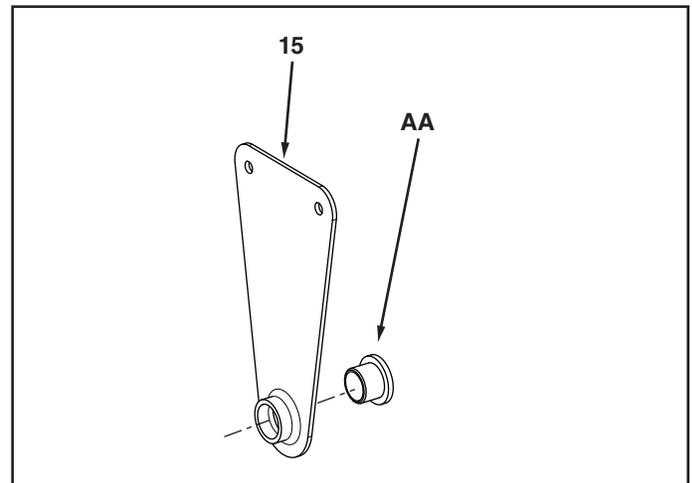

FIGURE 3
4. Press a flanged bearing (AA) into both center braces (15) from the flat side of each brace. See figure 3.